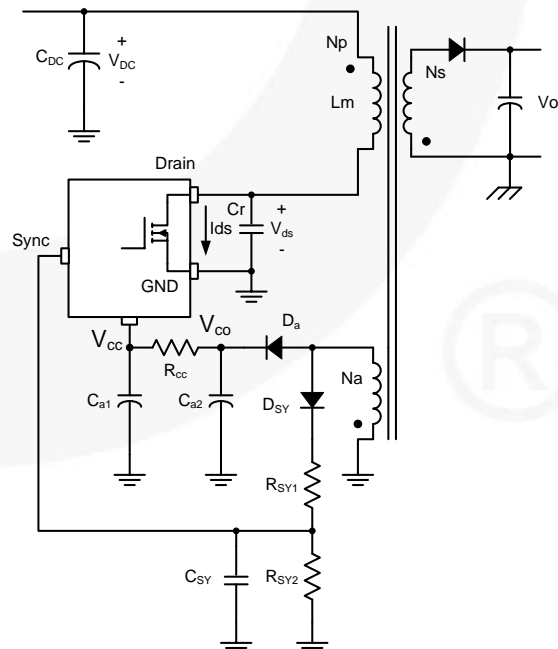
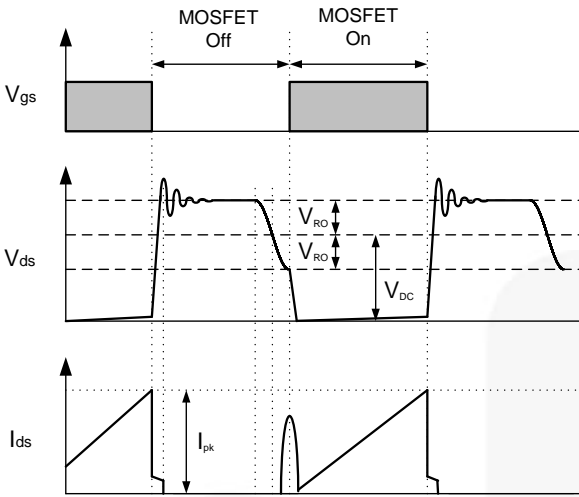
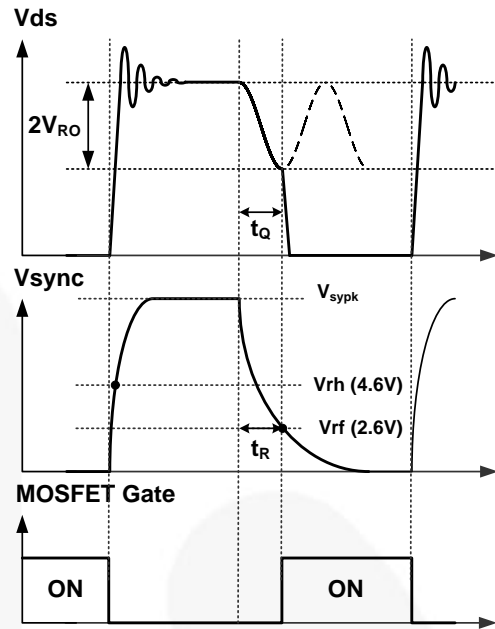

Figure 27. Synchronization Circuit
Figure 28. Quasi-Resonant Operation Waveforms
Figure 29. Normal QR Operation Waveforms
2. Synchronization: The FSCQ series employs a quasi-resonant switching technique to minimize the switching noise and loss. In this technique, a capacitor (C_r) is added between the MOSFET drain and the source, as shown in Figure 27. The basic waveforms of the quasi-resonant converter are shown in Figure 28. The external capacitor lowers the rising slope of the drain voltage to reduce the EMI caused when the MOSFET turns off. To minimize the MOSFET's switching loss, the MOSFET should be turned on when the drain voltage reaches its minimum value, as shown in Figure 28.
The minimum drain voltage is indirectly detected by monitoring the V_{CC} winding voltage, as shown in Figure 27 and Figure 29. Choose voltage dividers, R_{SY1} and R_{SY2} , so that the peak voltage of the sync signal (V_{sypk}) is lower than the OVP voltage (12 V) to avoid triggering OVP in normal operation. It is typical to set V_{sypk} to be lower than OVP voltage by 3–4 V. To detect the optimum time to turn on MOSFET, the sync capacitor (C_{SY}) should be determined so that t_R is the same with t_Q , as shown in Figure 29. The t_R and t_Q are given as: